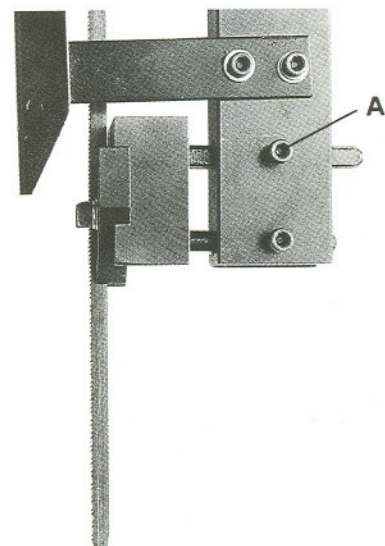

Fig. 13
7. Be sure that blade rests against ball bearing (A, Fig. 13), not behind it.